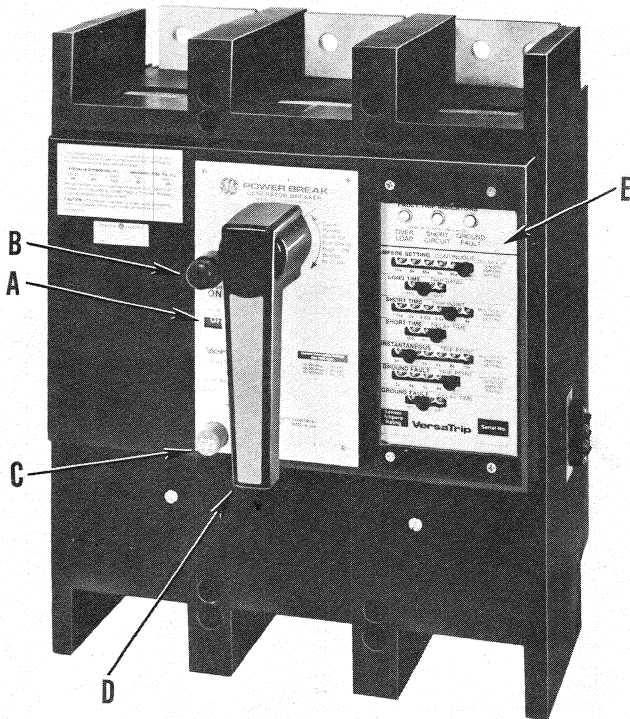

Fig. 1. 1600A Frame shown
- Breaker contacts may be closed manually by pushing the "ON" button (Figure 1) on the breaker escutcheon.
- Breaker contacts may be opened manually by pushing the "OFF" button (Figure 1).